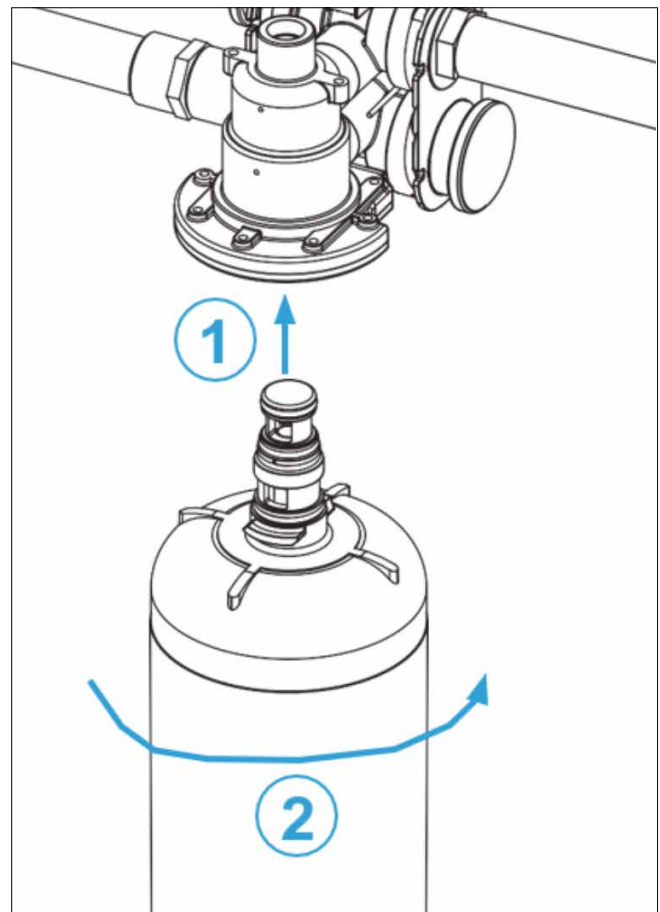

Figure 6. INSTALLING CARTRIDGE
1. Install the filter into the manifold by inserting it into the manifold head and swiftly turning it quarter turn to the right (clockwise) until it fully seated (Figure 6).